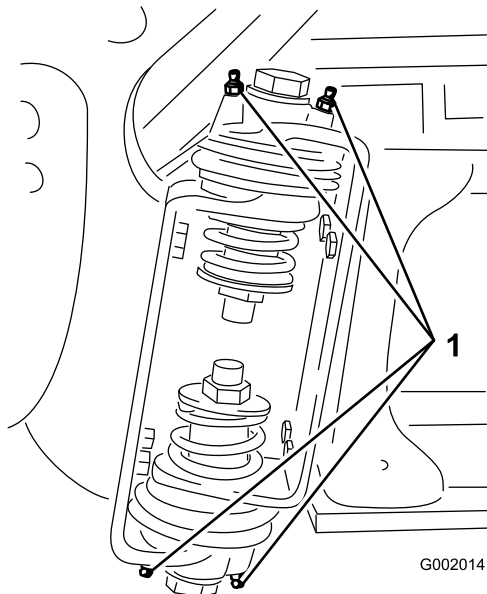

Figure 102
2. Pump grease into the bearing or bushing at each fitting Figure 102.